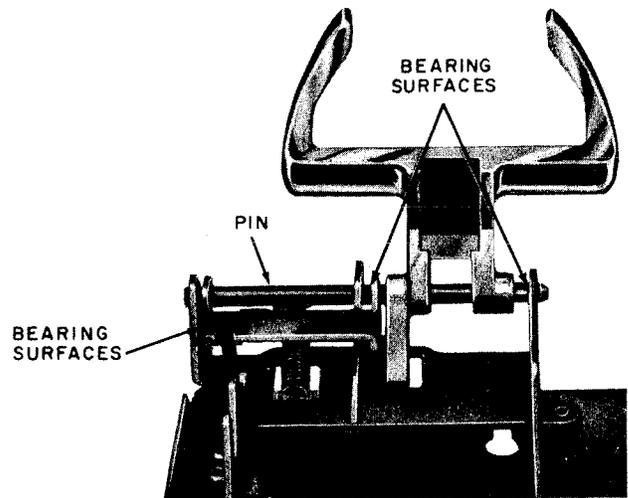

**Fig. 23 — Removing Handhold Cover**
- Accessible when handhold cover is removed (Fig. 23).